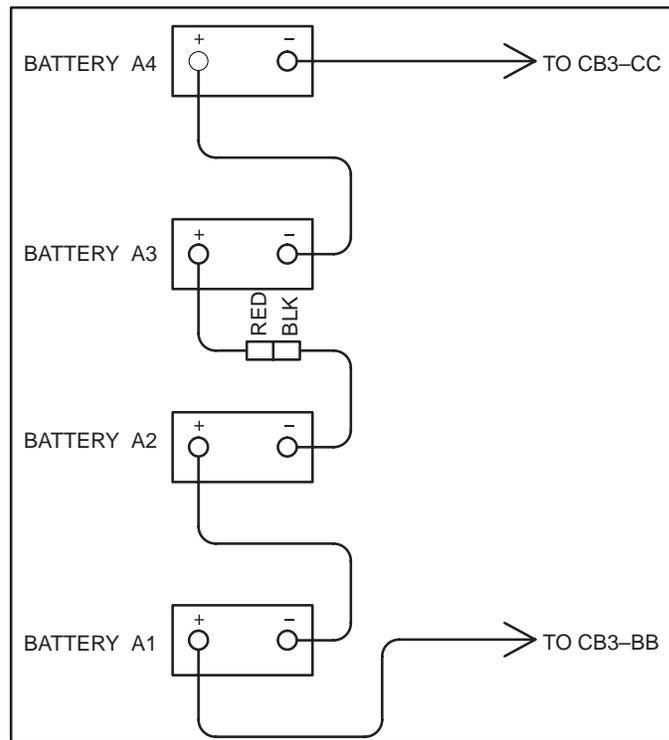

Figure 4-1.
8. Repeat until all battery trays have been inspected, cleaned and greased. Do one tray at a time and be sure to return tray to its original location. Bolt in place. Trays are numbered in accordance with Figure 4-1.
4. Mount new battery in tray, clean the posts and cable lugs and connect cables, observing polarity (see Figure 4.1).